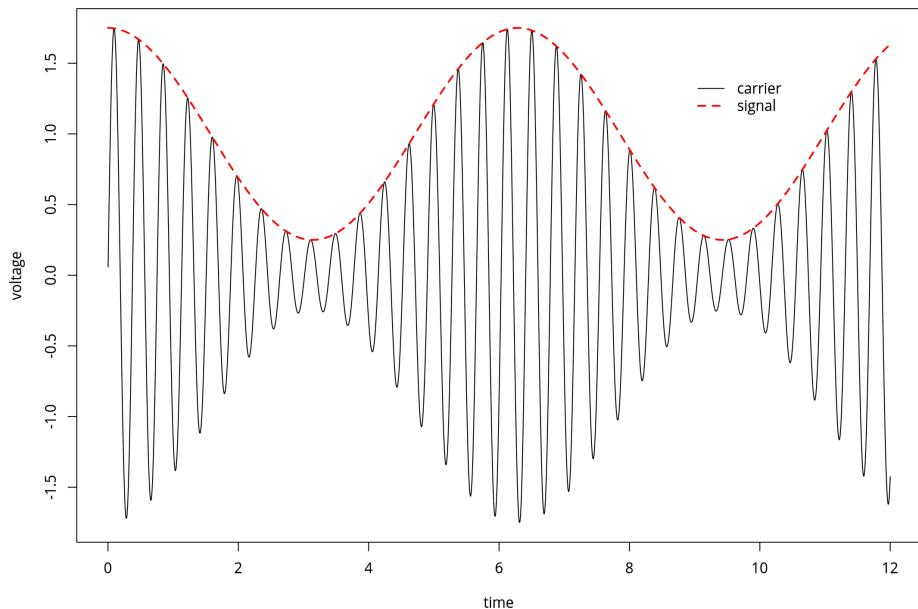

Figure 9-2. AM modulation
Amplitude-modulated (AM) radio was the first broadcast radio mode to become popular, and is certainly the most accessible for us. A signal is broadcast at a constant radio frequency (the *carrier* frequency); to hear it, you tune your radio to receive that same frequency. The strength, or amplitude, of this signal is varied over time to mimic the sound wave you'd like to transmit—essentially, the audio sound wave is riding on the carrier wave's amplitude. I plotted out the carrier and signal waves over time in Figure 9-2.
AM radio allows for a particularly simple receiver. When you tune the radio to the correct frequency, the antenna receives a time-varying voltage signal that looks like the solid line in Figure 9-2—the carrier modulated by the signal. To get rid of
Note that this signal is what's called 100% modulated. When the audio signal is at its maximum, the carrier is fully on, and when it's at its minimum, the carrier is fully off. (Compare with the sine wave in Figure 9-2, which was sketched with 75% modulation.) We'll output this signal directly to an antenna, and send it across the room.